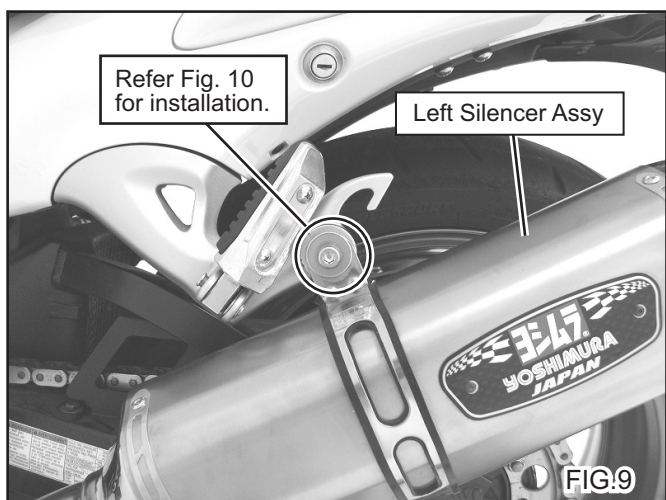

FIG.9
- 8) Mount Silencer Band that has placed Silencer Band Rubber inside to Left Silencer Assy. And then, fix the silencer band to stock silencer bracket at left side passenger foot peg with Cap Bolt M8x55, Spacer 8-30-10, stock washer and flange nut (See Fig. 9 & 10). Tighten the bolt by hand only at this stage.